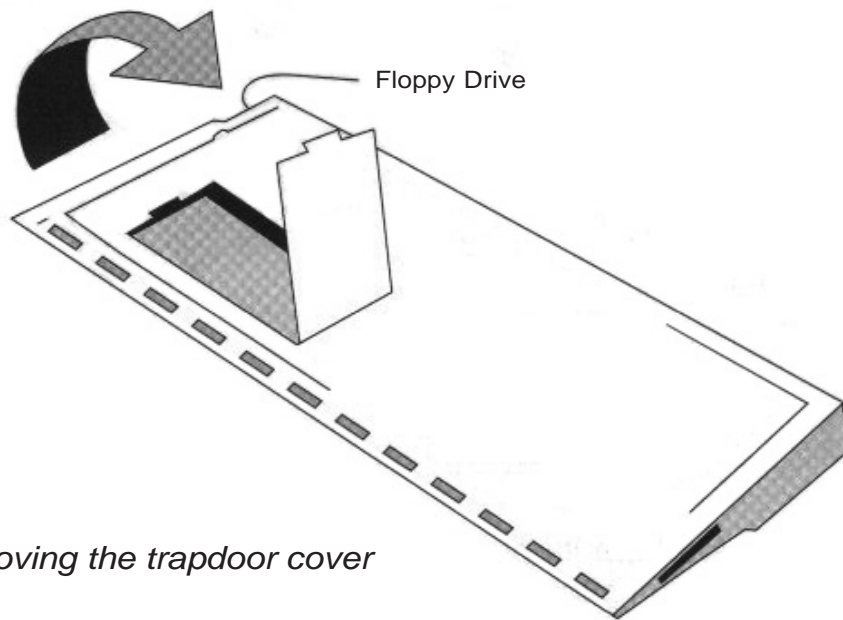

Figure 1.1 - Removing the trapdoor cover
3. Remove the panel which covers the trapdoor expansion slot. It can be simply removed by inserting the edge of a flat bladed screwdriver, coin, or blunted knife into the indentation, and prying off the cover (see fig. 1.1). Beneath it you will find the open access to your Amiga's main circuit board and, most importantly, the expansion connector which can be fitted with a wide variety of external devices including your Hawk Expansion Board.